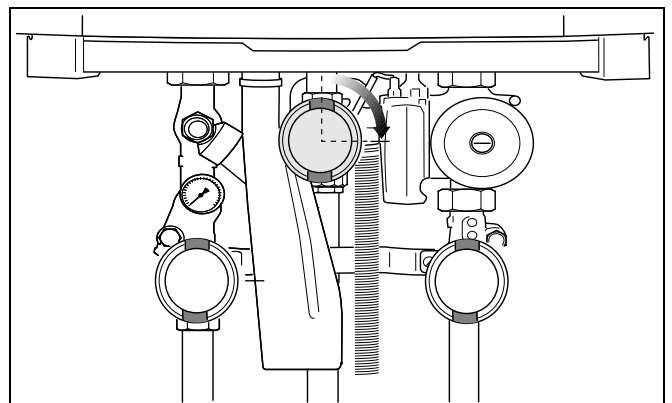

fig. 22 Closing the gas valve (here: closed)
- Close the main gas supply or the gas valve (fig. 22).